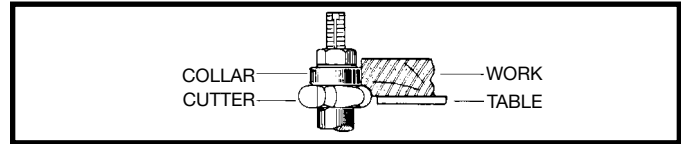

Fig. 44
3. When the collar is used above the cutter as shown in Fig. 44, the cut cannot be seen, yet this method offers some advantage in that the cut is not affected by slight variations in the thickness of the stock. Also accidental lifting of the work will not gouge the workpiece.